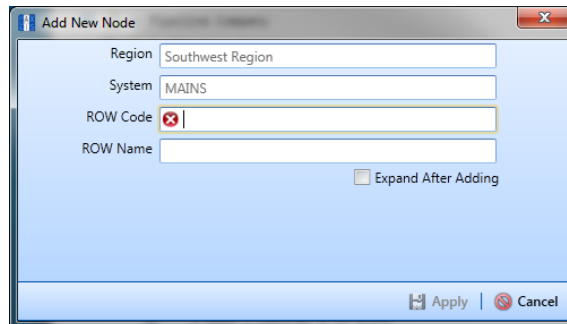

Figure 4-4. Add New Node
- 3 Click **+** **Add** to open the *Add New Node* dialog box (Figure 4-4). Right-clicking the selected hierarchy folder and selecting *Add* in the shortcut menu also opens the *Add New Node* dialog box.
- 4 Enter a pipeline code for the new pipeline in the **ROW Code** field. Fields requiring information include a **X** red icon, such as *ROW Code* in the previous figure (Figure 4-4).